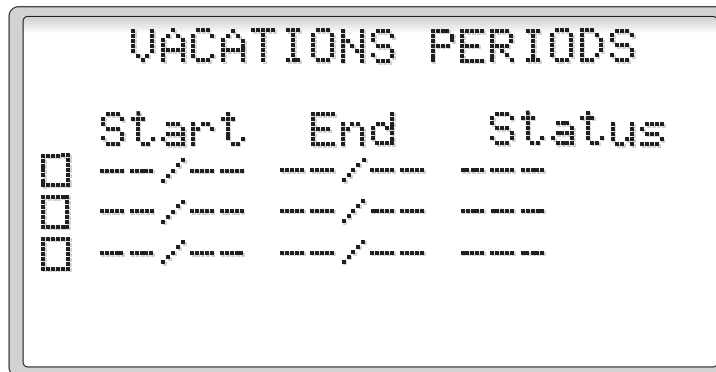

Figure 16
2.3.3.3 Vacation Periods (Figure 16)